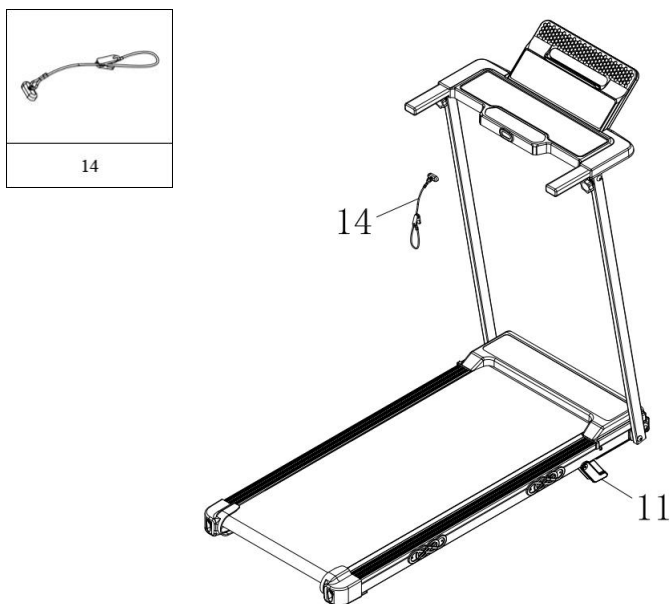

Figure 5
Step 5: As shown in (Figure5), install the safety lock (14) .